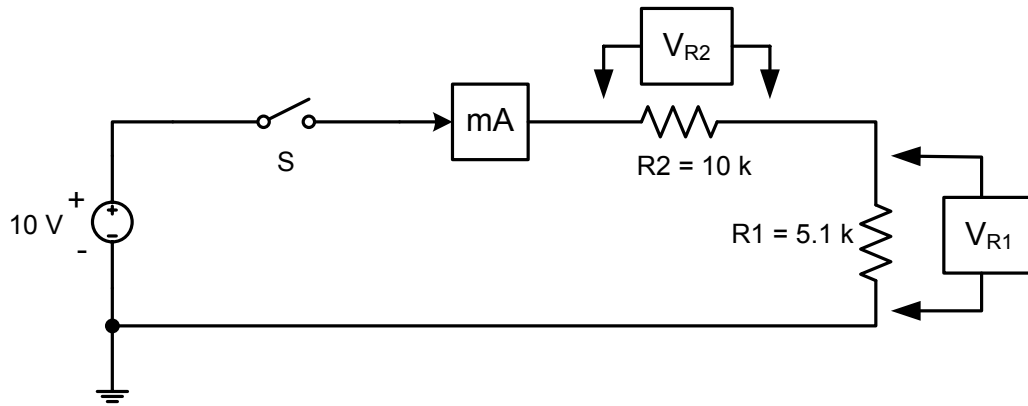

Figure 3.1
- ii) Consider the circuit shown in Figure 3.1. Calculate the current I , and the voltages V_{R1} and V_{R2} , assuming that input resistance of the ammeter is zero and that of the voltmeter is infinity. Enter your results into Table 3.2, in your lab book.
Step 3: Connect the circuit shown in Figure 3.1 on the protoboard using the prepared diagram from your preparation. ***Do not connect the voltmeter to the circuit yet.***
Step 9: Re-compute the values of I , V_{R1} and V_{R2} in the circuit of Figure 3.1 using the measured values of R_1 and R_2 . Comment on the results.